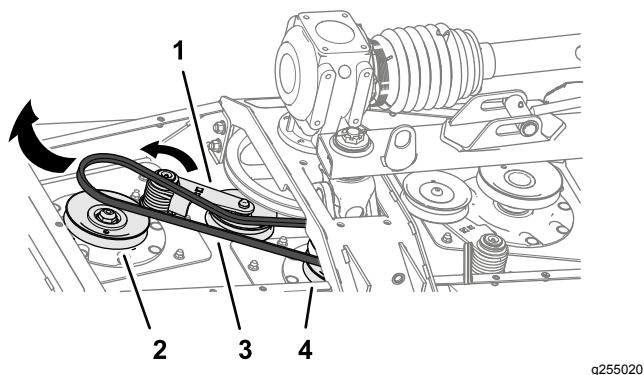

Figure 60
- Use a breaker bar or similar tool to rotate the belt tensioner for the short belt counterclockwise and slip the belt off the tensioner pulley (Figure 60).